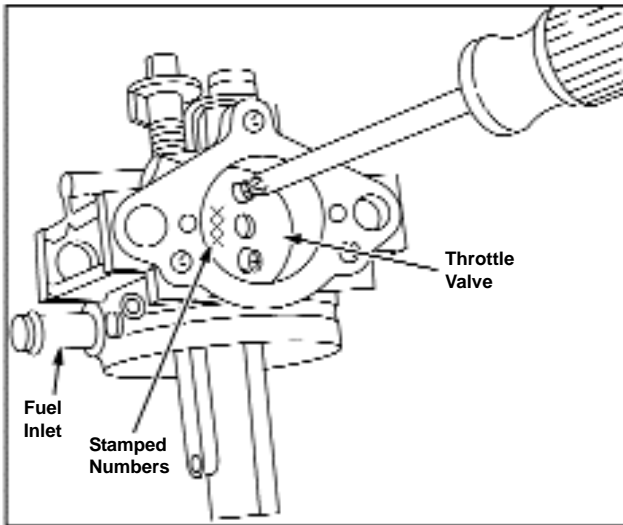

Figure 24 - Installing Throttle Valve,
4. Lay throttle valve on shaft with stamped numbers to the left and install two (2) screws with lock washers, Figure 24.